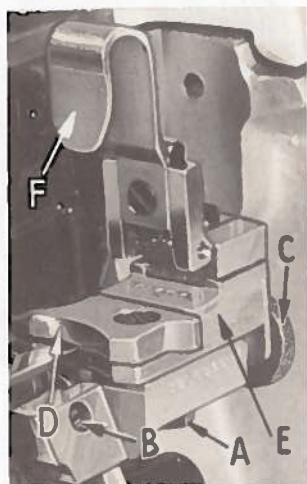
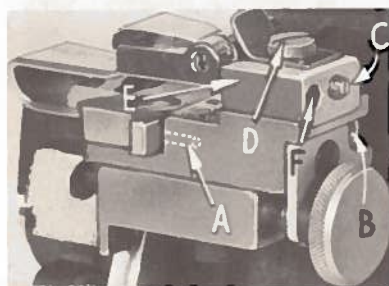

Fig. 20
Fig. 21
Loosen lock screw (A, Fig. 20), then proceed as follows;
Assemble the hemming guide support bracket onto the lower knife support bracket by means of screw (B, Fig. 20). With the knurled adjusting screw (C), set the edge guide (D) so that the left side of its tip is even with and parallel to the right side of the right feed slot in the throat plate. When the edge guide tip is in this position, the front or leading edge should be slightly to the right of parallel.
This adjustment can be made by positioning the stop screw (A, Fig. 21) located towards the front of the hinge block and edge guide support bracket (E, Fig. 20). Under normal conditions, the edge guide is spring loaded to compensate for the differences in the material thickness. The amount of movement and pressure applied to the edge guide tip can be set by removing lock screw (B, Fig. 21) and adjusting the screw which presses against the spring and pin, located in the hinge block and edge guide support bracket (E, Fig. 20). Replace lock screw and tighten securely. If movement of the edge guide is not required, then remove lock screw (B, Fig. 21), set screw and spring; then replace set screw and lock screw. Be sure set screw is tightened against pin and lock screw is tightened against set screw.
Adjust the edge guide (D, Fig. 20) by turning the knurled adjusting screw (C) so that the stitches are located in the folded edge, yet do not show on the face of the fabric. At this point re-tighten screw (A, Fig. 20) securely. Adjust the overhanging guide (F, Fig. 20) so that space between its guiding edge and the edge guide (D) corresponds with the thickness of the material to be hemmed. Loosen set screw (C, Fig. 21) and holding screw (D), now move the hinge block (E) to obtain the proper distance between the edge guide and the overhanging guide. Re-tighten screws (C) and (D). Remove lock screw (F) and adjust stop screw that is in front of lock screw, so that the tip of the overhanging guide is located at the center of the edge guide vertically. Replace lock screw (F) and tighten against stop screw.